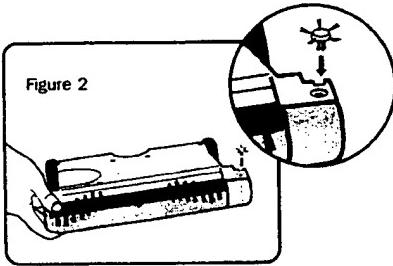

Figure 2
2. Fit the Edge Wheel (7) onto the bottom of the Main Unit (1), (fig.2).